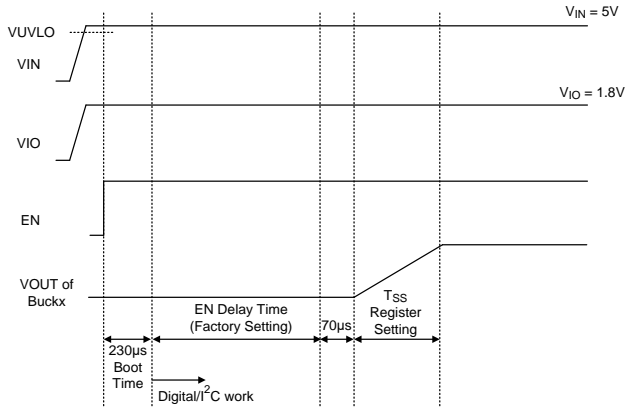
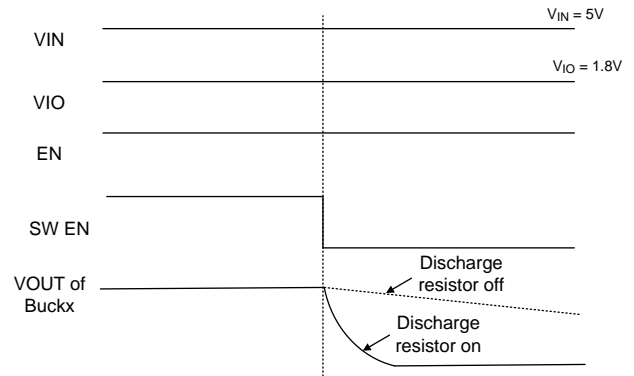
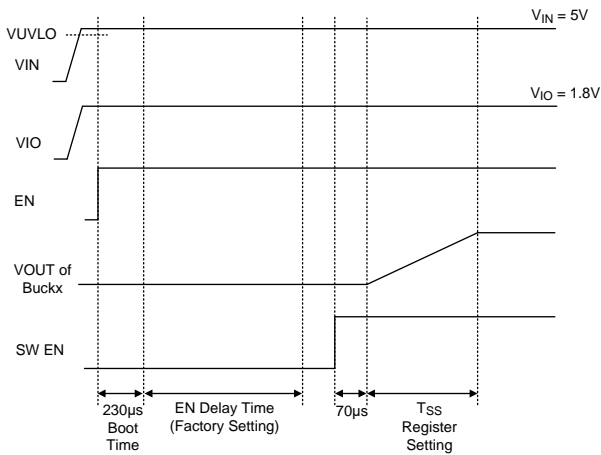
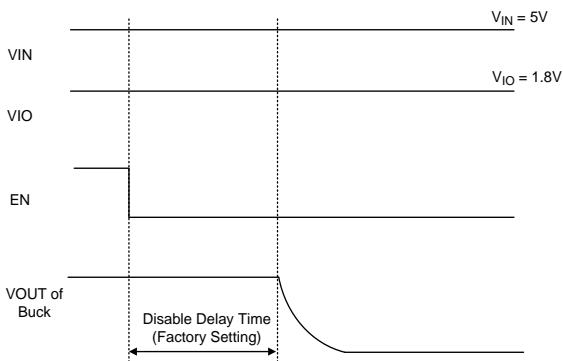

Figure 3. Start-up Sequence
Figure 6. Power-off Sequence by Software
Figure 4. Start-up Sequence by Software
Figure 5. Power-off Sequence
enable control, to enable or disable the device. If VEN is held below a logic-low threshold voltage ( $V_{ENL}$ ) of the enable input (EN), the converter will enter into shutdown mode and reset all digital function ( $I^2C$ ); that is, the converter is disabled even if the VIN voltage is above VIN undervoltage lockout threshold ( $V_{UVLO}$ ). During shutdown mode, the supply current can be reduced to  $I_{SHDN}$  (20 $\mu$ A or below). If the EN voltage rises above the logic-high threshold voltage ( $V_{ENH}$ ), the device starts switching. When appropriate voltages are present on the VIN, AVIN, VIO and EN pins, the RTQ2134 will begin digital function, switching and initiate a soft-start ramp of the output voltage. After the device is turned on and VIO is ready, all digital functions including  $I^2C$  communication start to work in a boot time with 230 $\mu$ s (typ.). The voltage of VIO can be used to supply power to digital function and it is recommended that enable the device after VIO voltage is ready. The RTQ2134 supports enable delay time setting (factory setting) and soft-start slew rate setting for each Buck. The soft-start function is used to prevent large inrush current while the converter is powered up. Register 0x55[5:4], 0x6F[5:4] and 0x89[5:4] let soft-start time of each be programmable. The start-up sequence is shown in Figure 3. IC also implements enable control by software, it can be set in the registers: 0x49[0], 0x4B[0], 0x63[0], 0x65[0], 0x7D[0] and 0x7F[0]. If the output voltage of Buck is default disable which is only set by factory, the output voltage starts to ramp up by software and the Figure 4 shows the start-up sequence. For disable function, the device supports disable delay time setting (factory setting) by external EN pin and the output voltage ramps down with default discharge resistor. The discharge resistor can be controlled to on or off by register 0x42[0], 0x5F[0] and 0x79[0] when the converter is disabled by software. The power-off sequence is shown in Figure 5 and Figure 6.